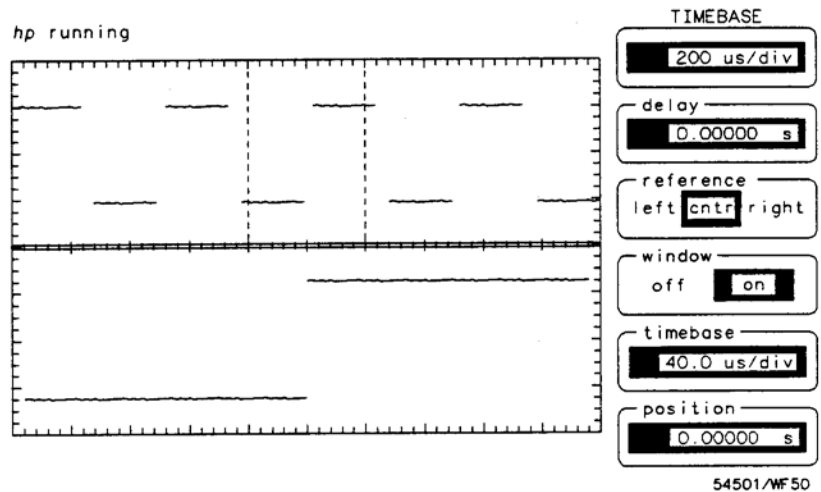

Figure 4-3. Input Signal with Window Turned On
- Set the window timebase to 40 $\mu\text{s}/\text{div}$ (see Figure 4-3).